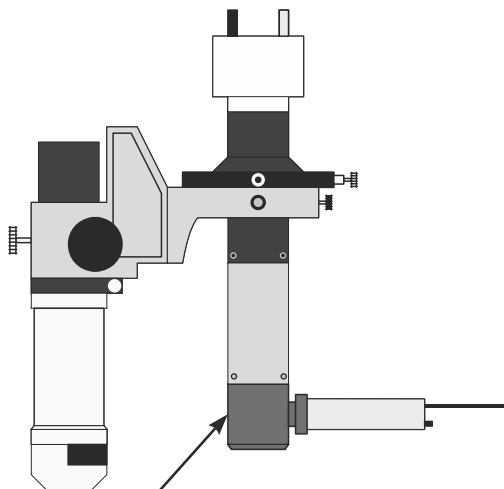

Fig. 1-5. Mounting the beam splitter.
2. Insert the beam splitter with the illuminator into the lower end of the adapter and secure it with three screws (Fig. 1-5).